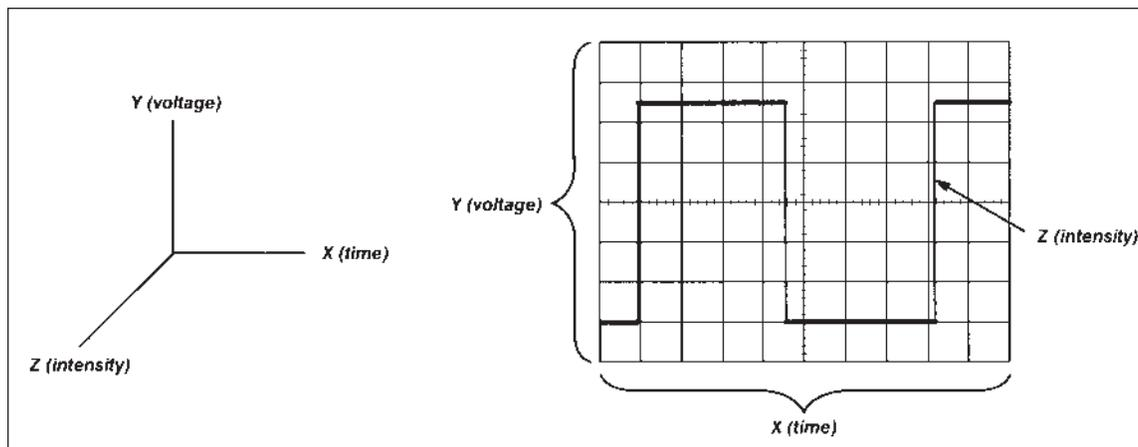

Figure 1. X, Y, and Z Components of a displayed waveform.
The oscilloscope is basically a graph-displaying device – it draws a graph of an electrical signal (see Figure 1). In most applications the graph shows how signals change over time: the vertical (Y) axis represents *voltage* and the horizontal (X) axis represents time. The intensity or brightness of the display is sometimes called the Z axis. This simple graph can tell you many things about a signal. Here are a few:
- You can find out how much of a signal is direct current (DC) or alternating current (AC)